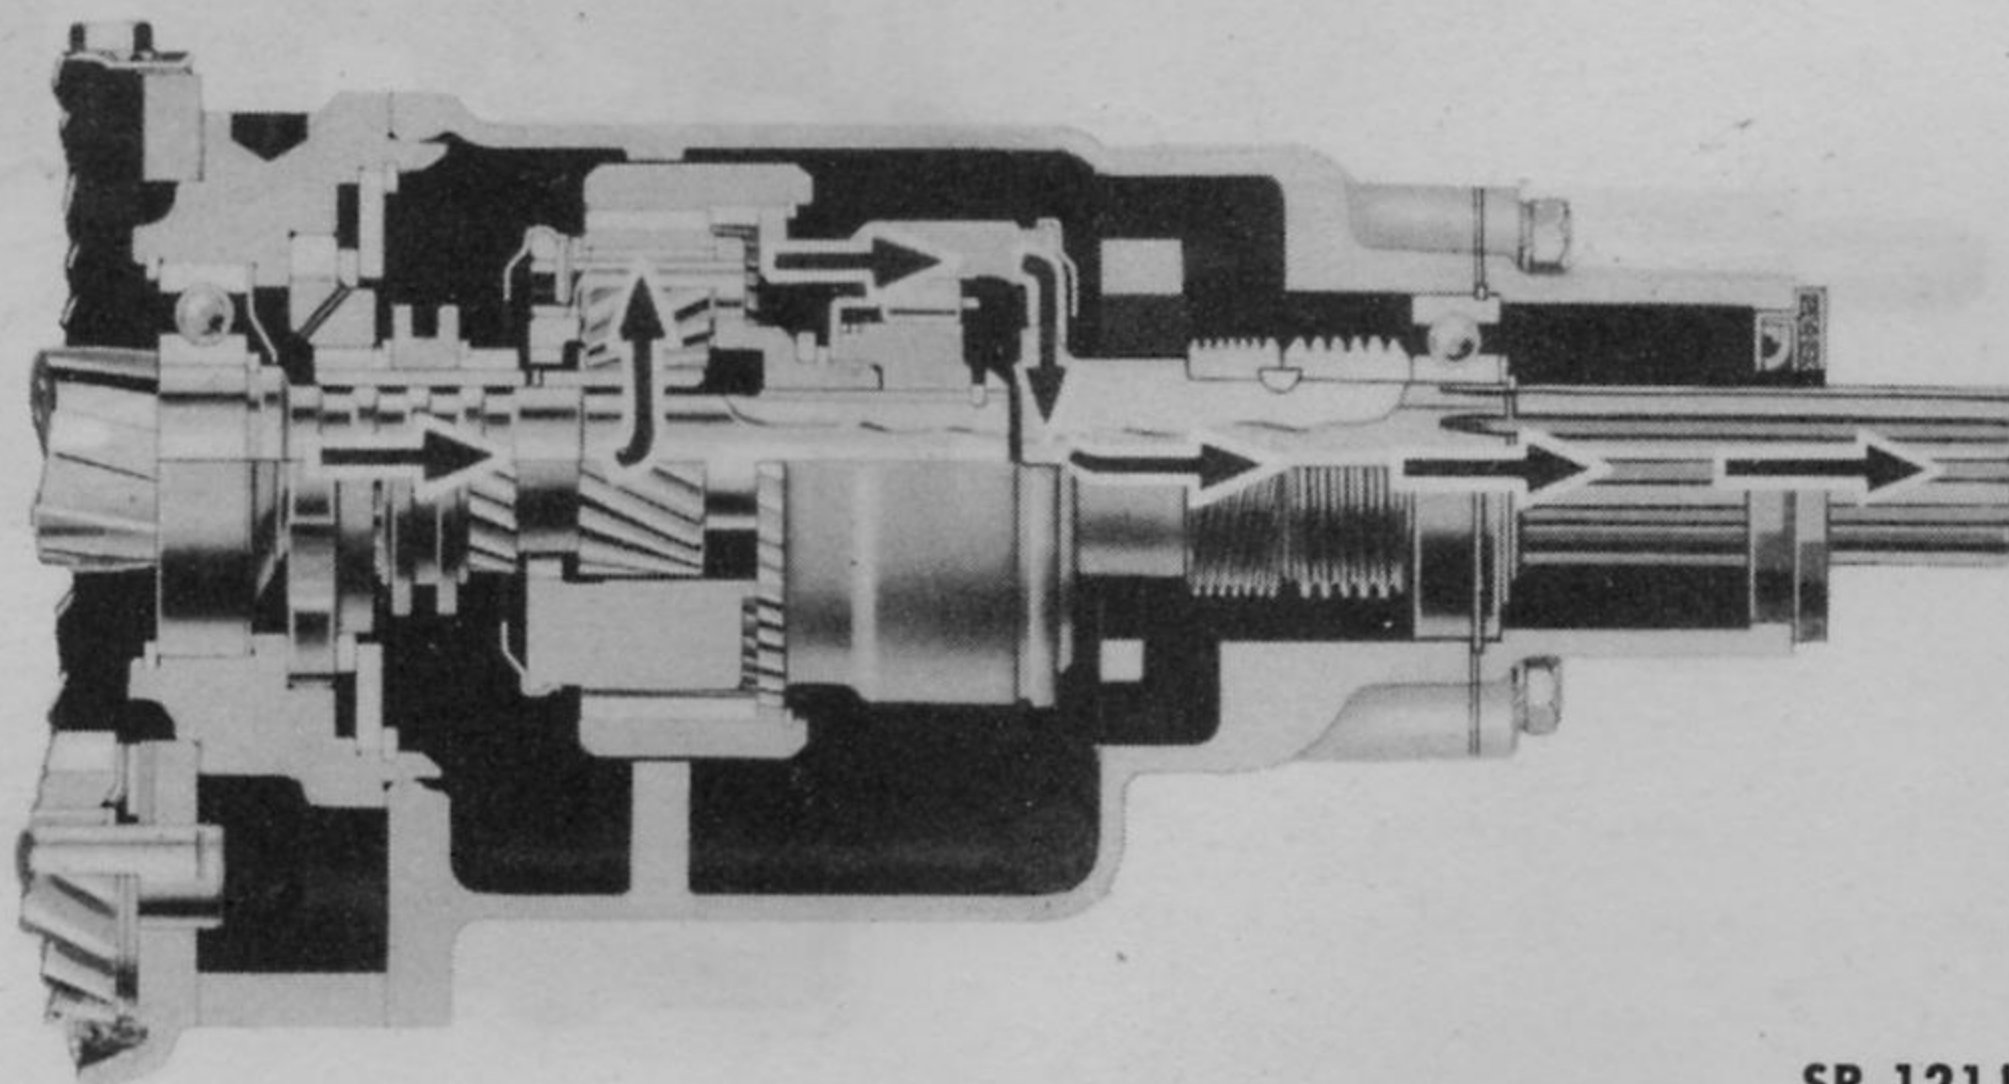

Fig. 182—Overdrive Unit Engaged
2. Operation with Overdrive Engaged. When the overdrive control knob is pushed in the shift fork rail is moved forward, taking the stationary gear out of engagement with the pinion cage assembly and also allowing the shift fork rail switch to close its contacts (Fig. 182). Refer to Fig. 208 for exploded view. The overdrive is now ready to function automatically, within the limits of the control exercised by the governor.
The drive is now from the overdrive transmission shaft, to the stationary gear pinion cage assembly through the planetary gears to the overdrive ring gear and mainshaft assembly, over-running the free-wheeling cam (over-running clutch). Refer to Fig. 182.